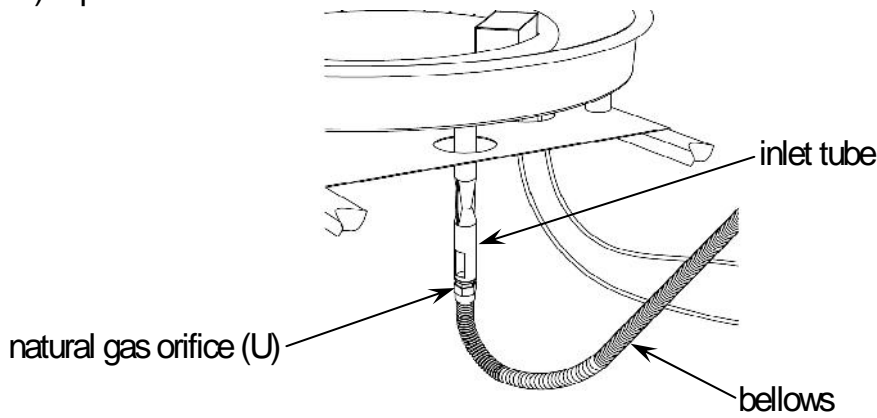

Figure 13
- Replace the propane orifice with the natural gas orifice, screw the natural gas orifice with the bellows tightly, then connect and tighten the natural gas orifice with inlet tube, see Figure 13. Natural gas orifice (U) (dia 4.18 mm size) is painted with black mark.